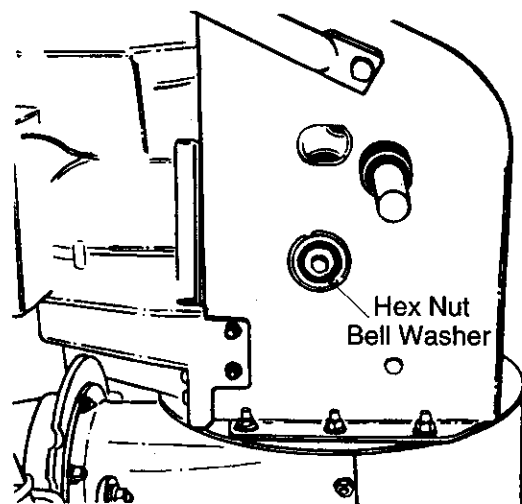

Figure 29
5. Using a wrench to hold the shaft, loosen, but do not completely remove, the hex nut and bell washer on the left end of gear shaft. See Figure 29.